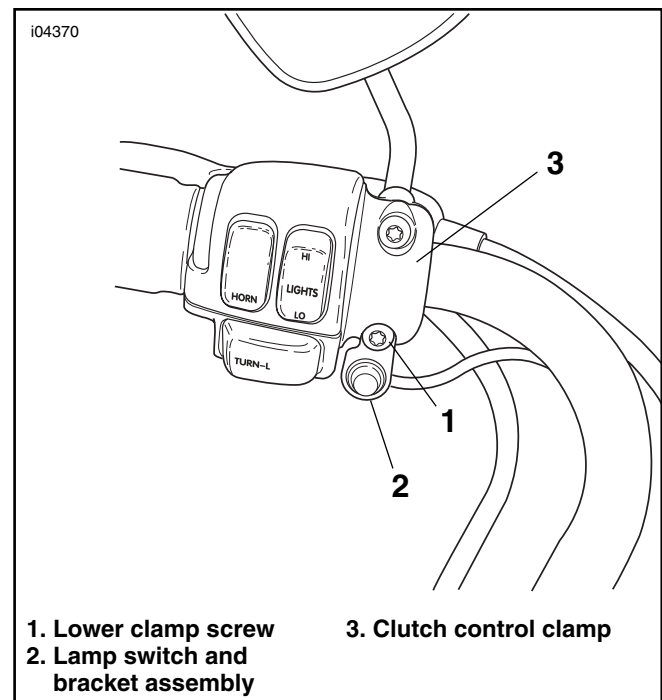

Figure 6. Install the Lamp Switch on the Clutch Control Clamp
10. See Figure 6. Remove the lower screw (1) and washer from the clutch control clamp (3), and install the lamp switch and bracket assembly (2). Install the screw and washer and tighten to 60-80 **in-lbs** (7-9 Nm).